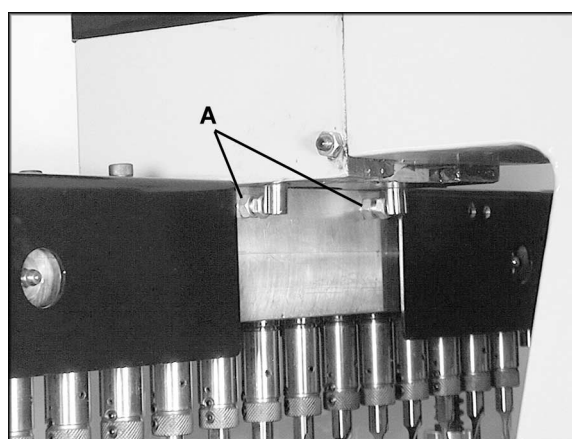

Figure 19
2. At the back of the boring head, loosen the hex nut (A, Figure 19) on either of the screws, depending upon which side of the boring head needs adjusting. Use a 10mm wrench.
3. Rotate the screw (Figure 19) in or out as needed.
4. Re-tighten the hex nut (A, Figure 19).